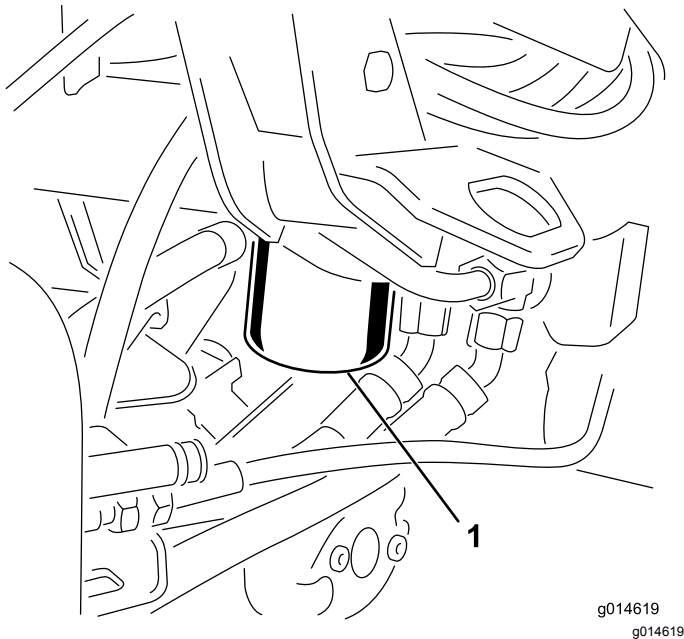

Figure 52
1. Clean the area around the filter mounting area (Figure 52). Place a drain pan under the filter and remove the filter.